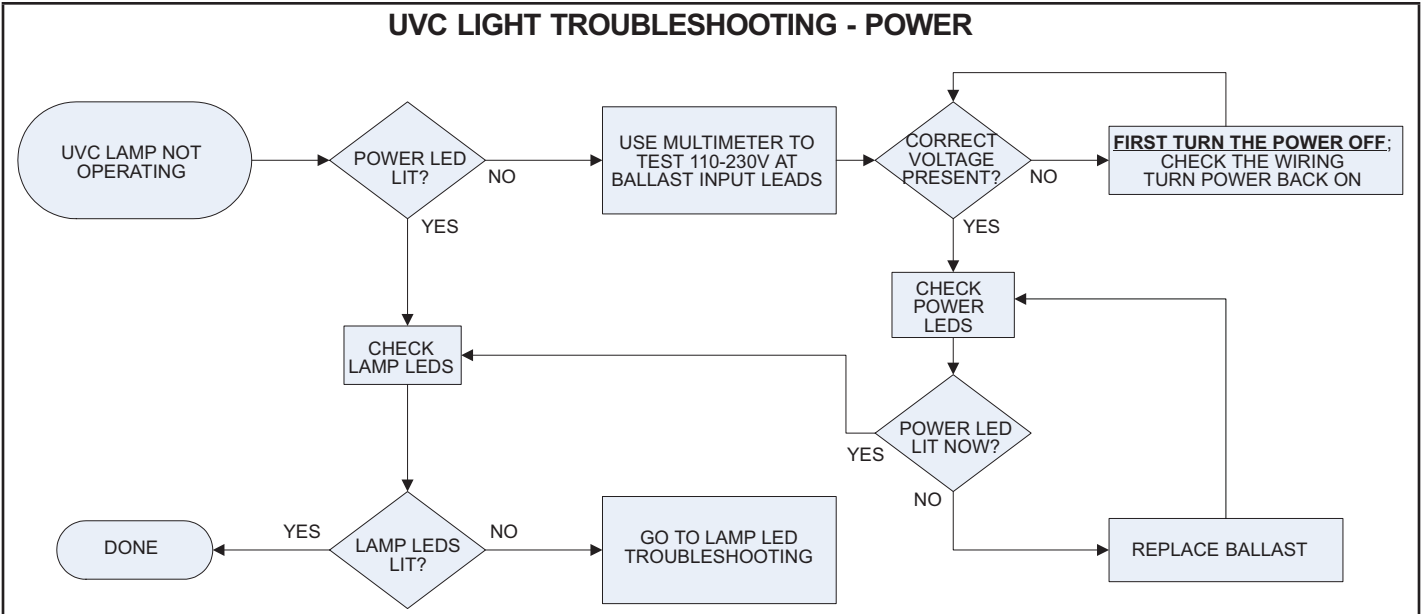
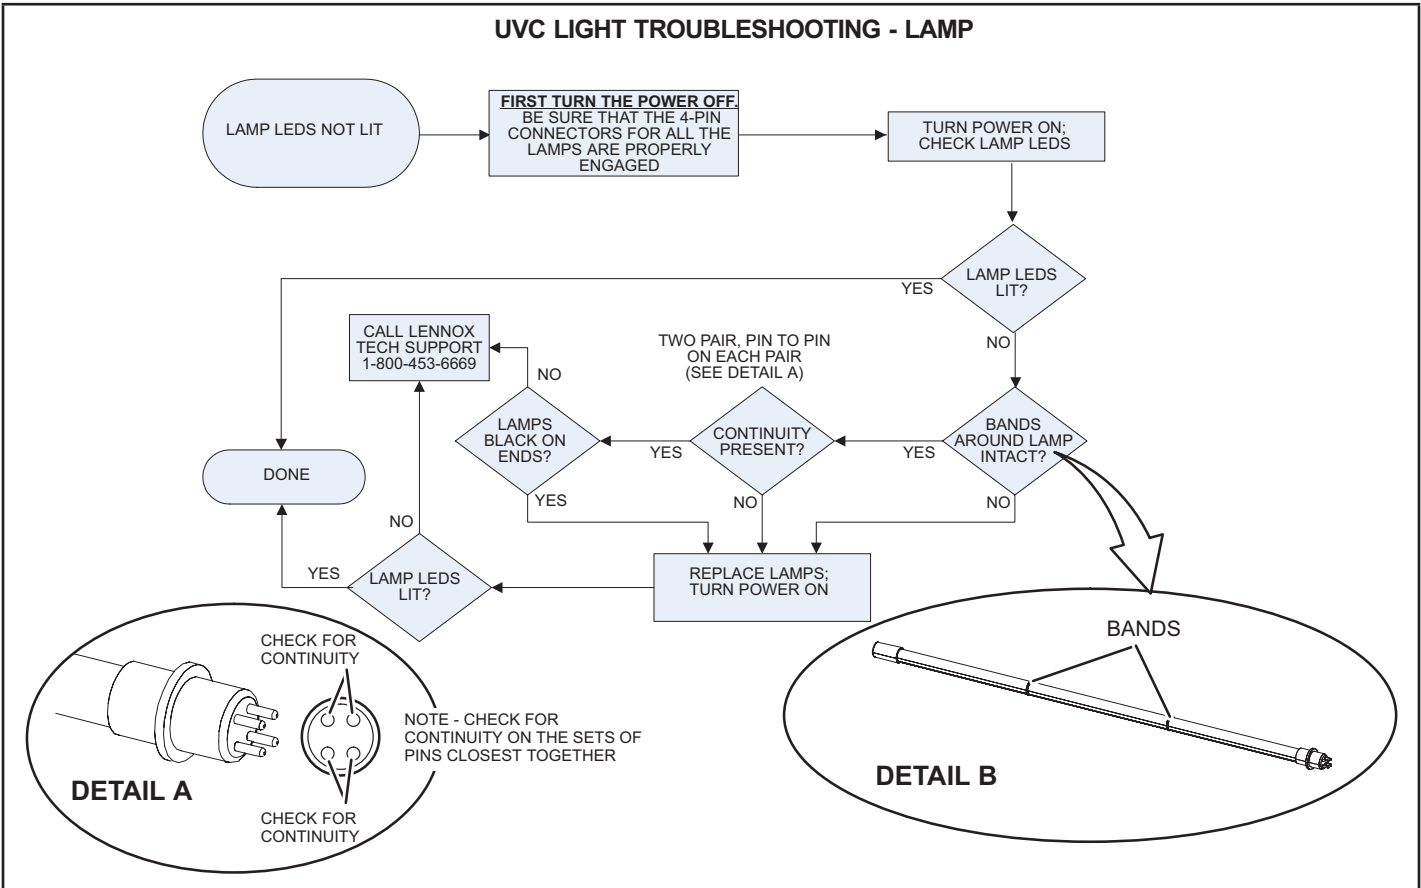

FIGURE 41
FIGURE 42
- 2 - Ohm-check across the lamp pins to check for continuity of lamp filaments (see FIGURE 42).
Troubleshooting charts are provided to aid in determining the cause of any problems encountered (FIGURE 41 and FIGURE 42).